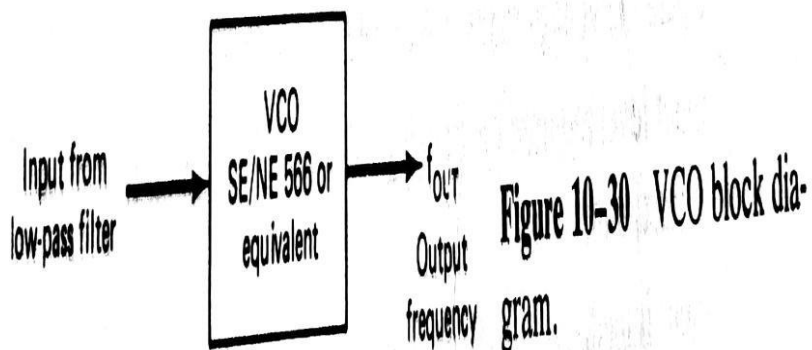

**Figure 10-29** Low-pass filters. (a) and (b) Passive filters. (c) Active filter.
- The loop filter used in the PLL may be one of the three types shown in figure 10.29.